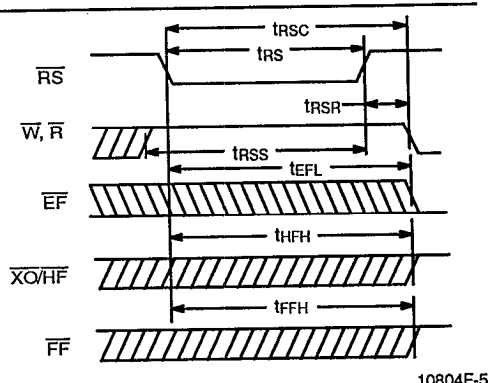

Figure 2. Reset Timing
Upon power up, the FIFO must be initialized with a Reset cycle. (See Figure 2.) The states of XI and FI are used during the reset cycle to determine the FIFO's mode of operation, as shown in Tables 1 and 2. For a valid reset cycle to occur, both the Read (R) and Write (W) signals must be HIGH t_{RSS} prior to and t_{RSR} after the rising edge of Reset (RS). The reset cycle initializes the FIFO to an empty condition, signified by the Empty Flag (EF) being LOW, active, and both the Half-Full (HF) and Full Flag (FF) being HIGH, inactive.